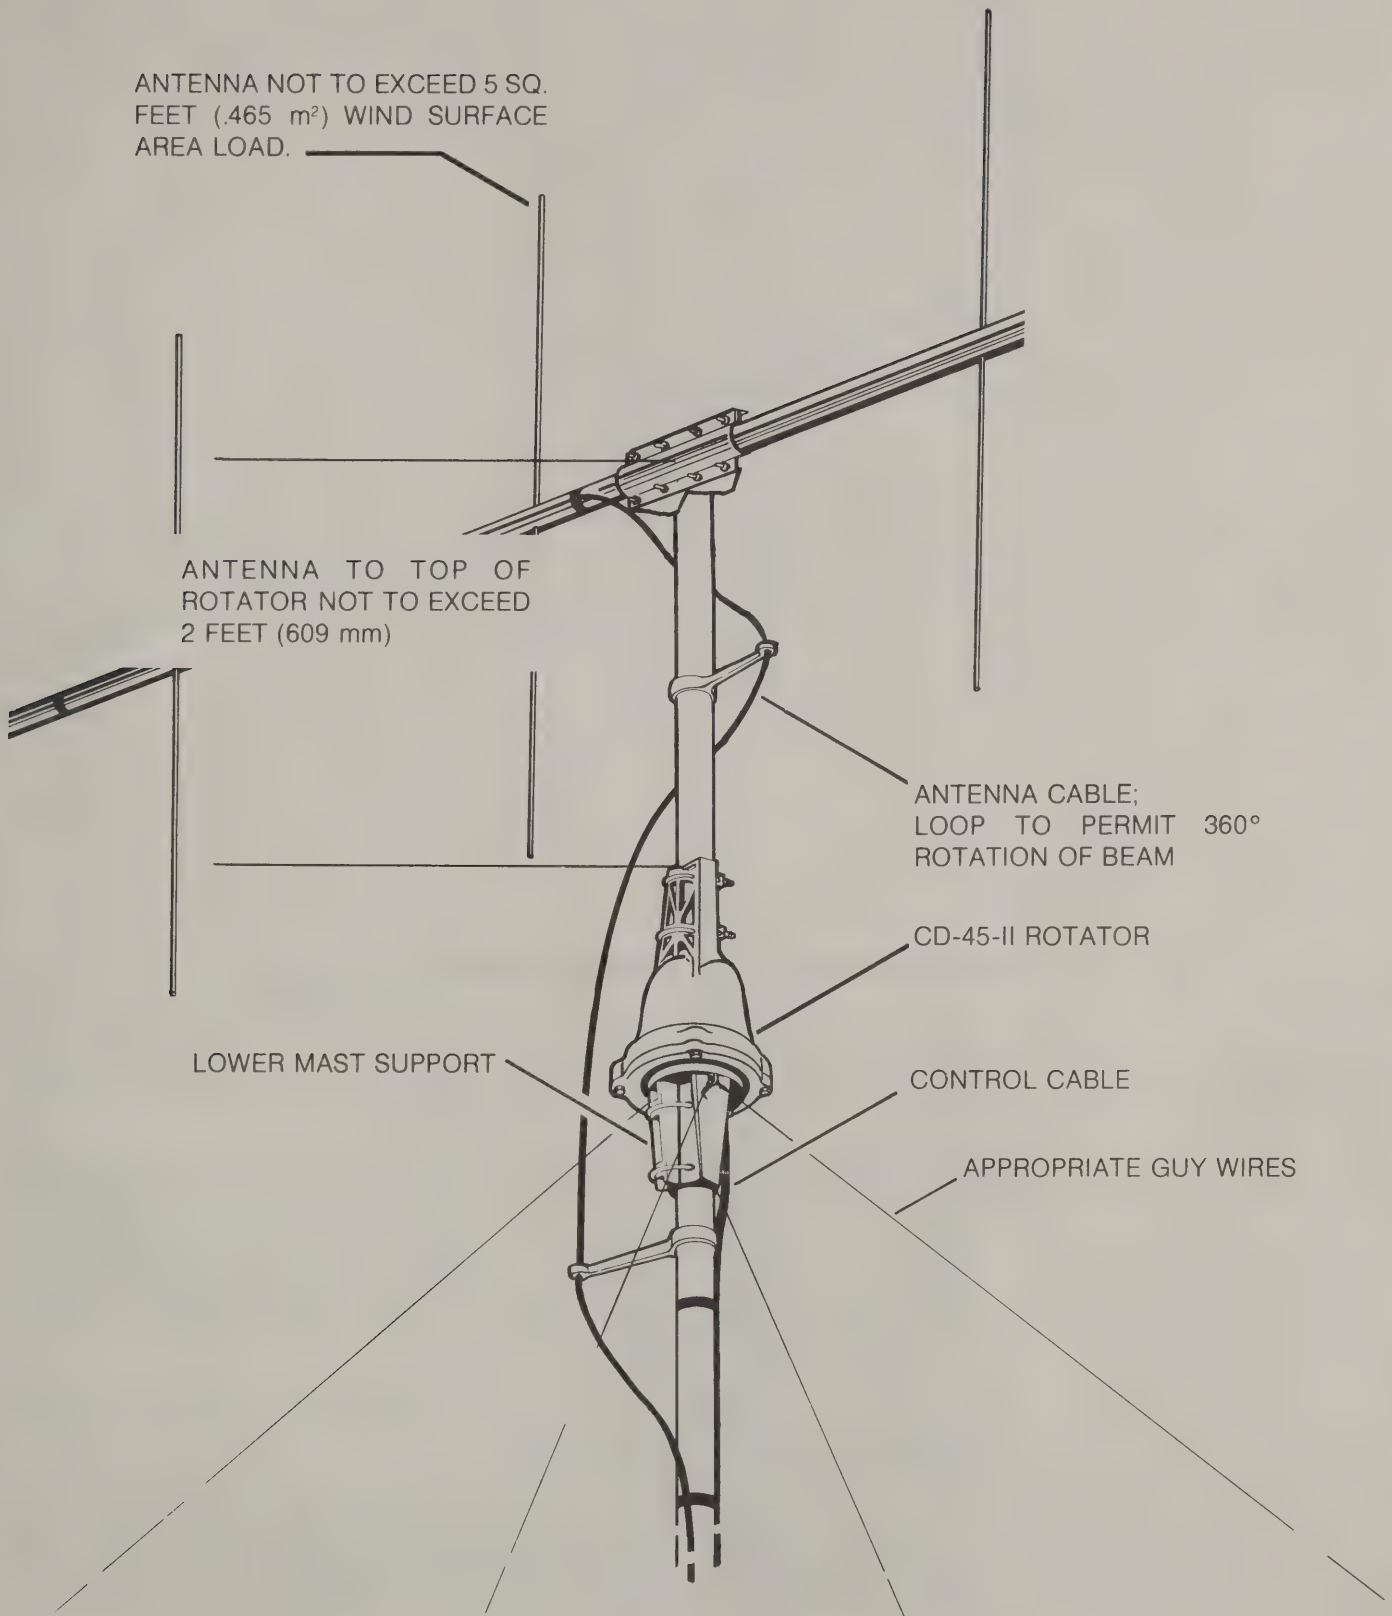

Figure 5
3. A telescoping or other type mast, as shown in Figure 5, can also be used. The lower mast support is required for this installation.
1. Mount the rotator to the lower mast support and then attach the support to the mast. (See Figures 5 & 6.)
4. Connect the antenna cable to the antenna (follow manufacturer's recommendation). Make sure you have enough slack for the 360° rotation. (The antenna rotates "S" to "E" [counterclockwise] during its first turn, therefore, slack should wrap counterclockwise around the mast.) See Figure 5.